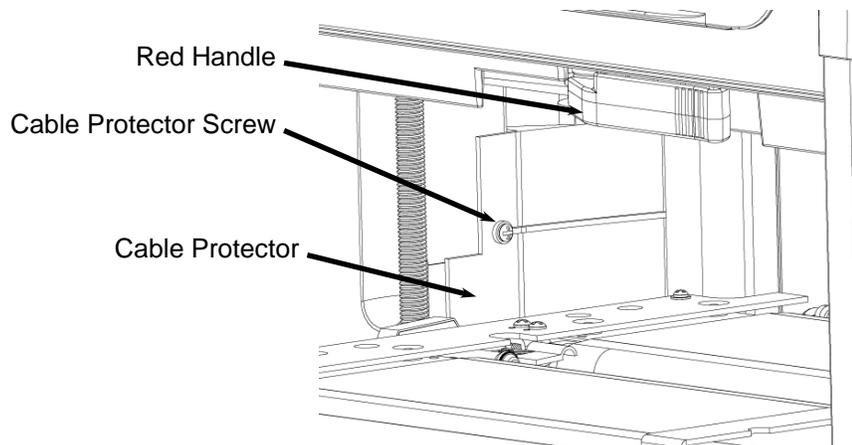

**FIGURE 6:** LOCATING THE HEAD CONNECTOR BOARD
7. **Replace the ribbon cable bottom bend guard.** Place the ribbon cable bend guard back into position and insert the screw. Make sure that the three ribbon cables are looped underneath the guard as shown in Figure 6 and that they cables are not folded.